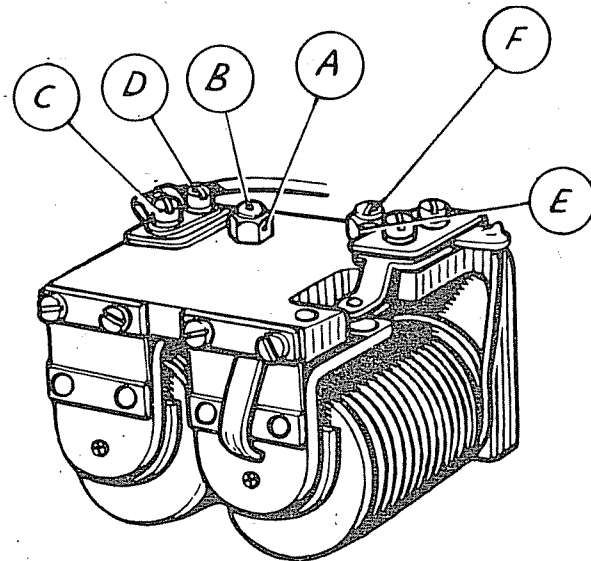

Fig. 6—Cut-out and Regulator Assembly.
Release the locknut (A) holding the adjusting screw (B) and turn the screw in a clockwise direction to raise the setting or in an anti-clockwise direction to lower the setting. Turn the screw a fraction of a turn only at a time and then tighten the locknut. Repeat as above until the correct setting is obtained. (Refer to Figure 6).
(3) Cleaning Contacts.
After long periods of service it may be found necessary to clean the vibrating contacts of the regulator. These are made accessible by slackening the screws securing the plate carrying the fixed contact. It will be necessary to slacken the upper screw (C)-Figure 6, a little more than the lower (D) so that the contact plate can be swung outwards. Clean the contacts by means of a fine carborundum stone or fine emery cloth.
If operation of the cut-out takes place outside these limits, it will be necessary to adjust. To do this, slacken the locknut on the cut-out adjustment screw (F, Figure 6) and turn the screw in a clockwise direction to raise the voltage setting or in an anti-clockwise direction to reduce the setting, testing after each adjustment by increasing the engine speed until the cut-out is seen to operate, and noting the corresponding voltmeter reading.